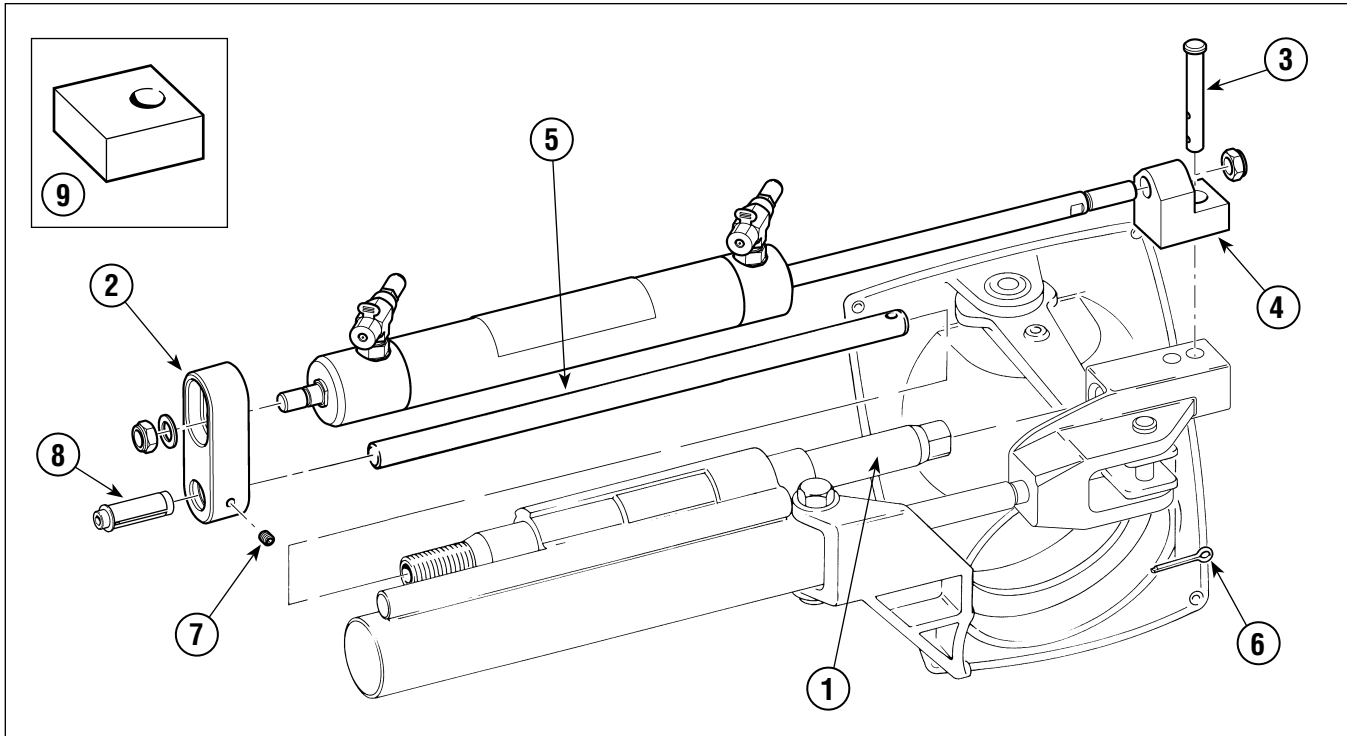

Figure 9. HC5331-3 (92-VPS), **NOT for use with SeaStar PRO helm(s).**
Referring to Figure 9 please observe the following:
**Cut Clevis Pin, (item 3 Figure 9) to a length of 2" when mounting cylinder in lower position.**